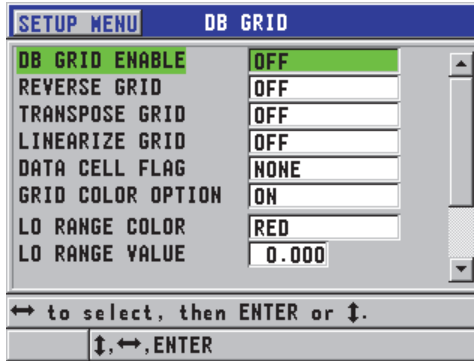

Figure 9-8 Changing DB grid parameters
2. In the **DB GRID** screen (see Figure 9-8 on page 160), perform the following steps.